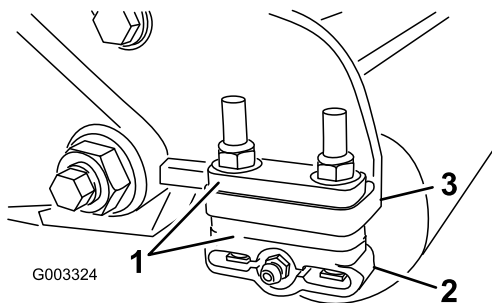

Figure 11
1. Adjust the rear roller brackets (Figure 11) to the desired height-of-cut range by positioning the required amount of spacers below the side-plate mounting flange (Figure 11) per the Height-of-Cut Chart (page 10).